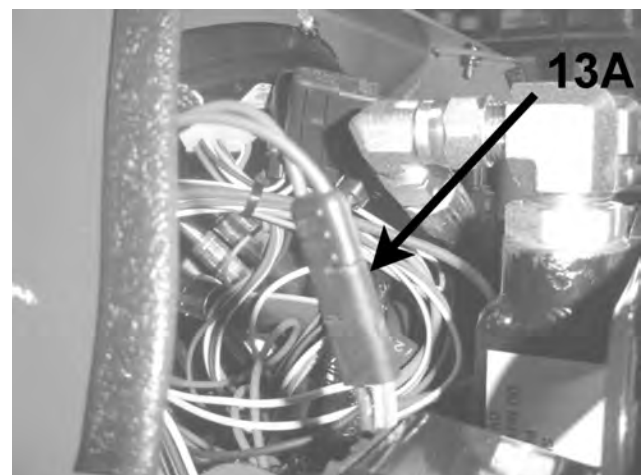
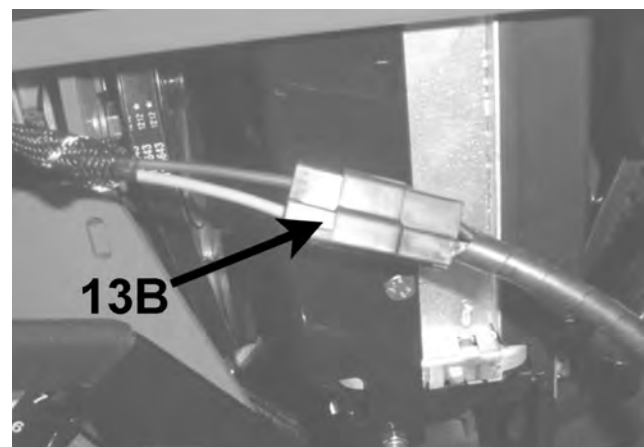

Figure 8
Figure 9
5. Plug Weight Transfer Wire Harness **13** into main wire harness flat bullet connector **13A**. **(Figure 8)** Plug into Actuator **13B** . **(Figure 9)**